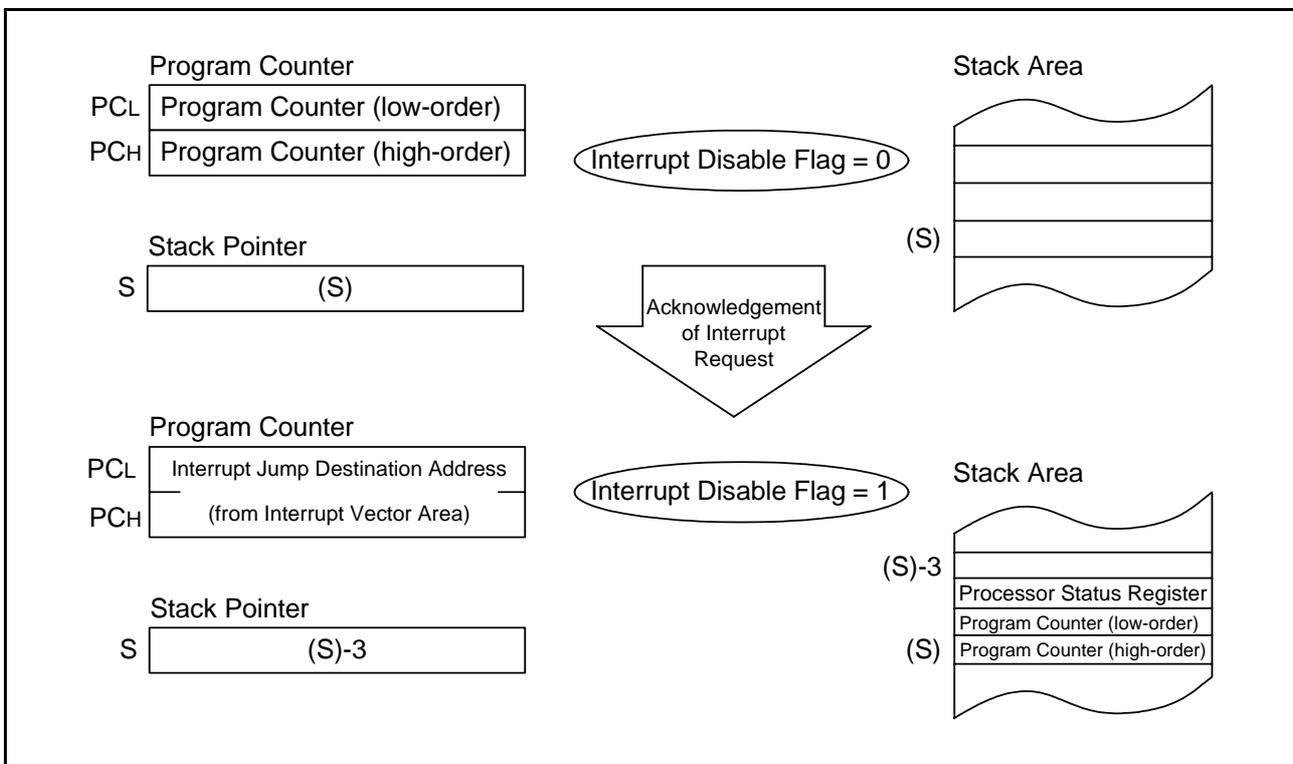

Figure 3.3 Changes of the Stack Pointer and Program Counter upon Acknowledgement of Interrupt Request
- (1) When the process being executed is terminated, the interrupt request is acknowledged.
- (2) The contents of the program counter and the processor status register are stored into the stack area. Figure 3.3 shows the Changes of the Stack Pointer and Program Counter upon Acknowledgement of Interrupt Request.
- (3) At the same time the contents are stored into the stack area, the jump destination address (the beginning address of the interrupt routine) of an acknowledged interrupt is transferred to the program counter from an interrupt vector.
- (4) The interrupt request bit of the acknowledged interrupt is set to “0”. The interrupt disable flag is set to “1” so that multiple interrupts are disabled.
- (5) The interrupt routine is executed.